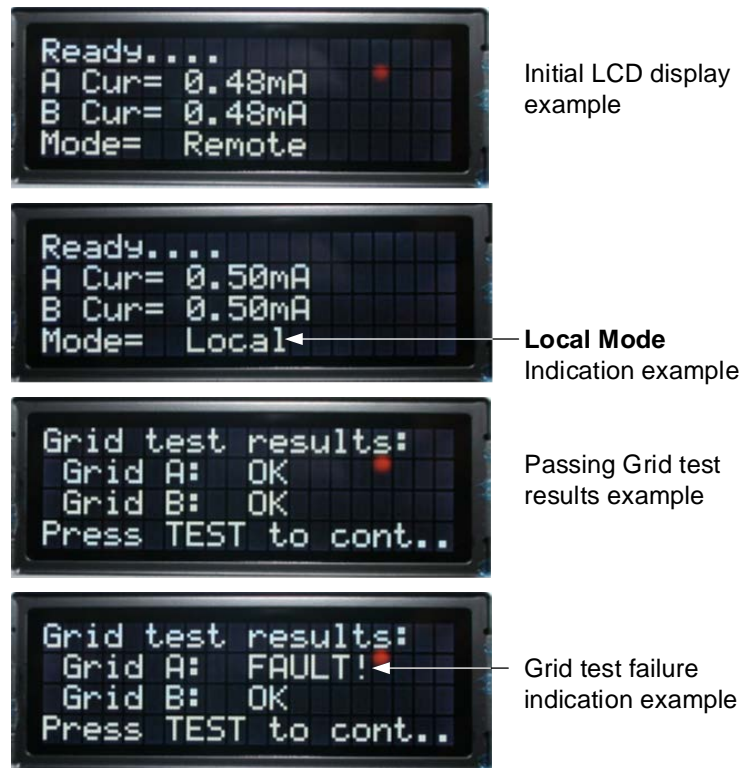

Figure 2-21. LCD Display Examples
2. Make sure the bottom line on the LCD display changes from **Remote** to **Local** (Figure 2-21).